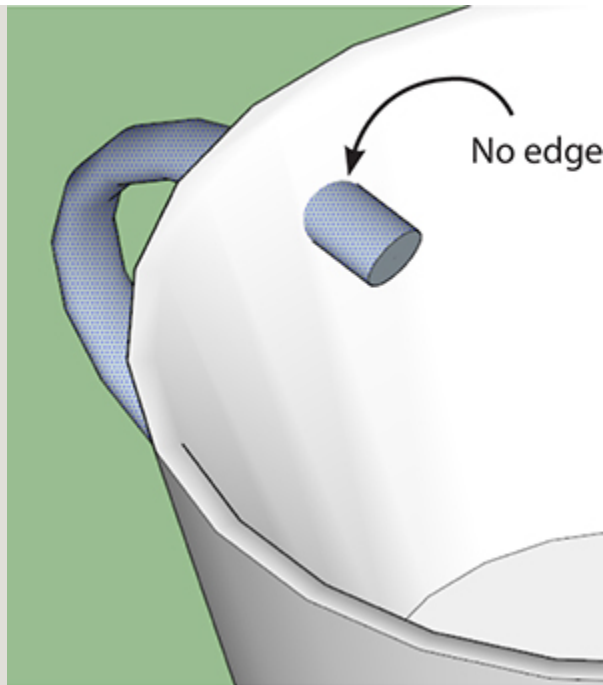

Figure 3-88 There are no edges between the intersection of the mug and handle.
7. Delete the handle's protruding parts. Look closely at the intersection of the mug and handle, and you'll see that there is no edge between them (Figure 3-88). Double-click the handle to select it, then right-click it, and choose Intersect Faces > With Model. Edges will appear (Figure 3-90). Select and delete the protruding parts.